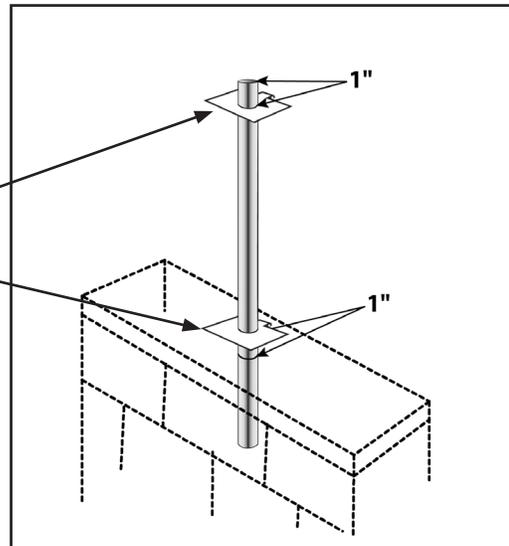

Fig.3b
1. Insert 2 EZ Post Brackets onto pipe ½" above vertically from the top of the wall and tighten the adjustment screw to securely lock. Insert the 2nd Post Bracket 1" below from the top of the support pipe and tighten the adjustment screw to securely lock. See EZ post brackets to the mounted support pipe (**Fig.3b**).